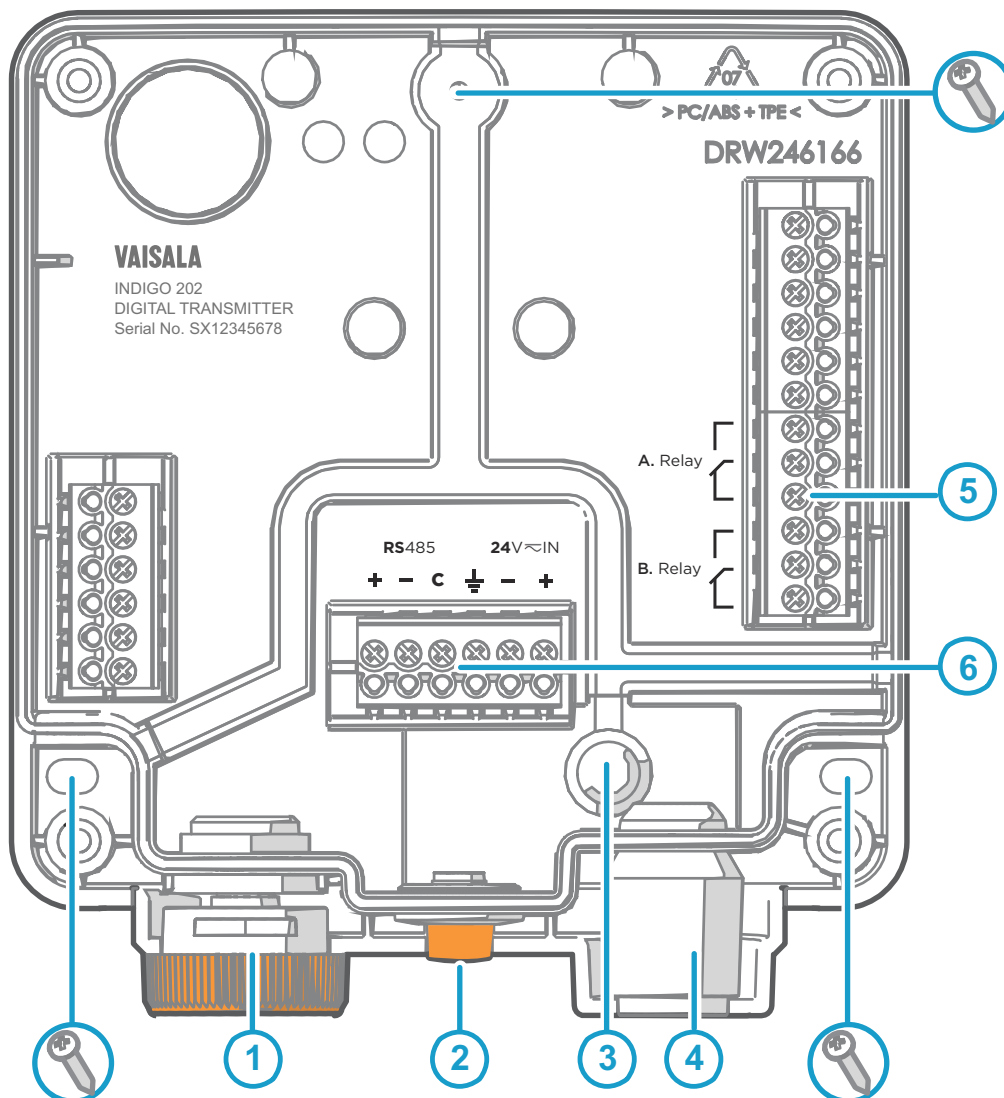

Figure 4 Indigo 202 Transmitter Base Main Parts and Screw Positions
4. Place the transmitter base on the installation surface and mount it with 3 screws. See the screw positions in Figure 4 \(page 10\).